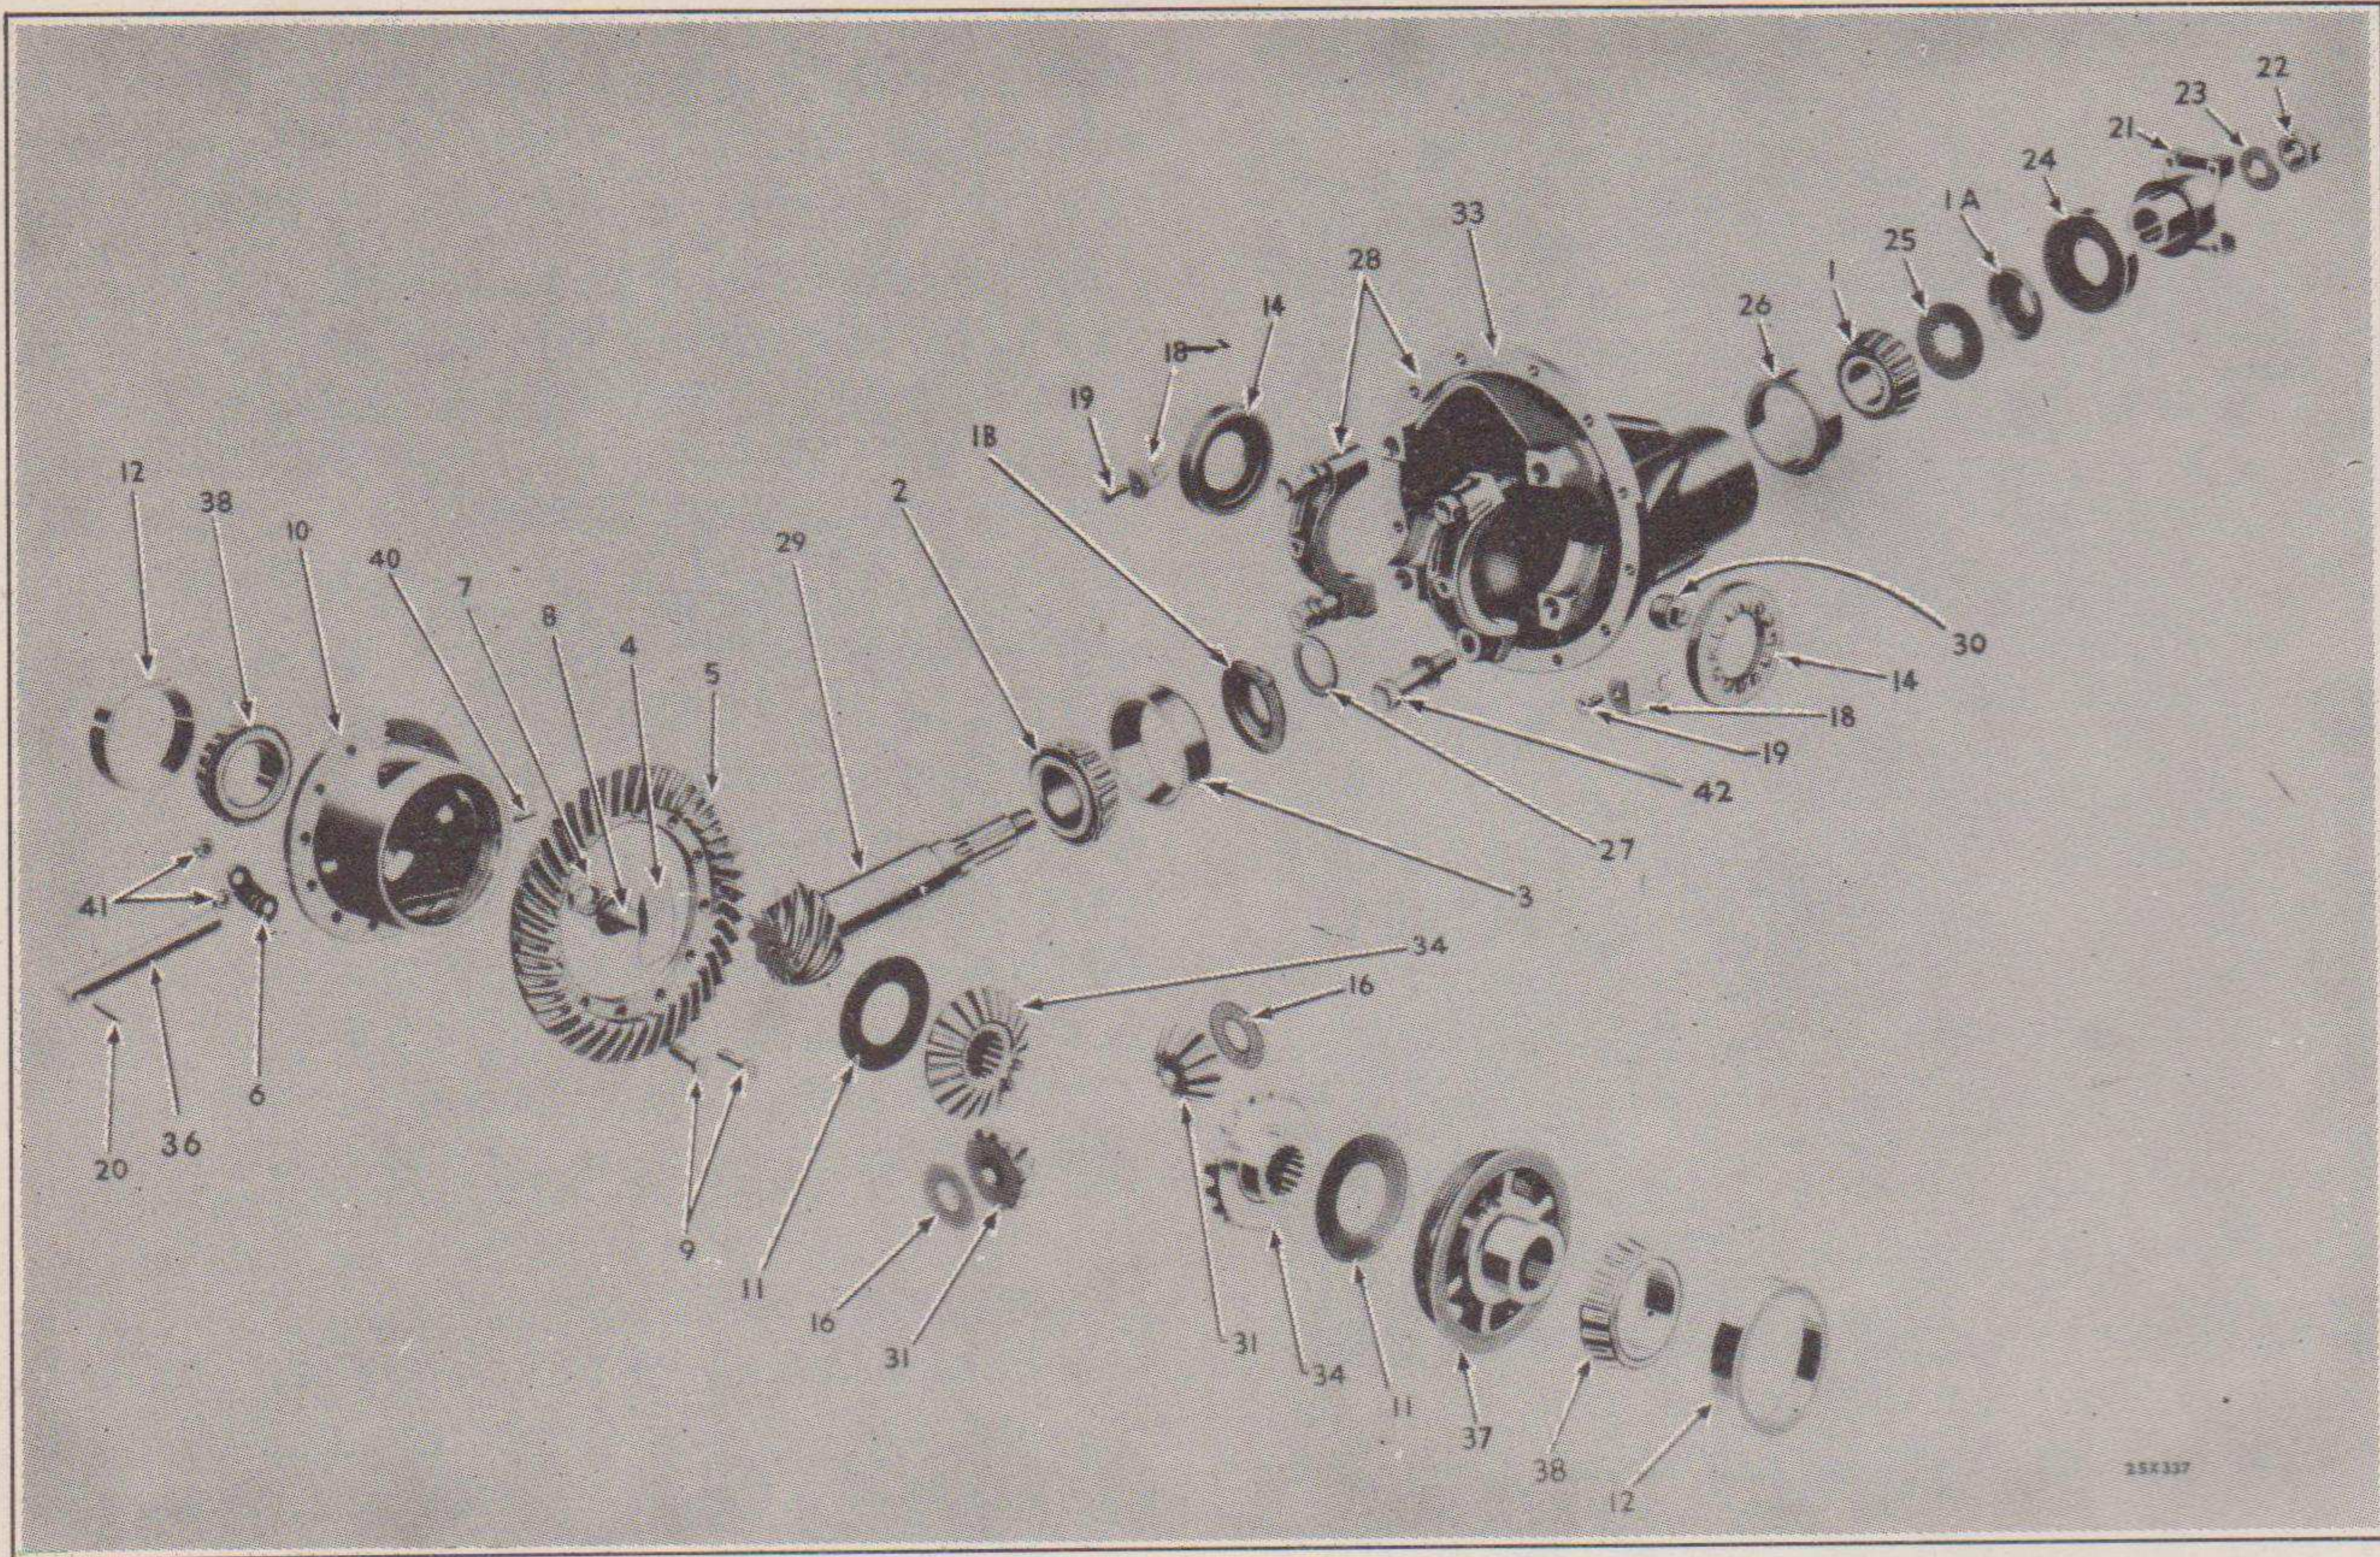

Fig. 51—Front and Rear Axle Differential (disassembled view).
- (d) Remove the retaining nuts and lock washers, holding the differential carrier to the axle housing. See Figs. 51 and 52.
Figs. 51 and 52—Front and Rear Axle Differential